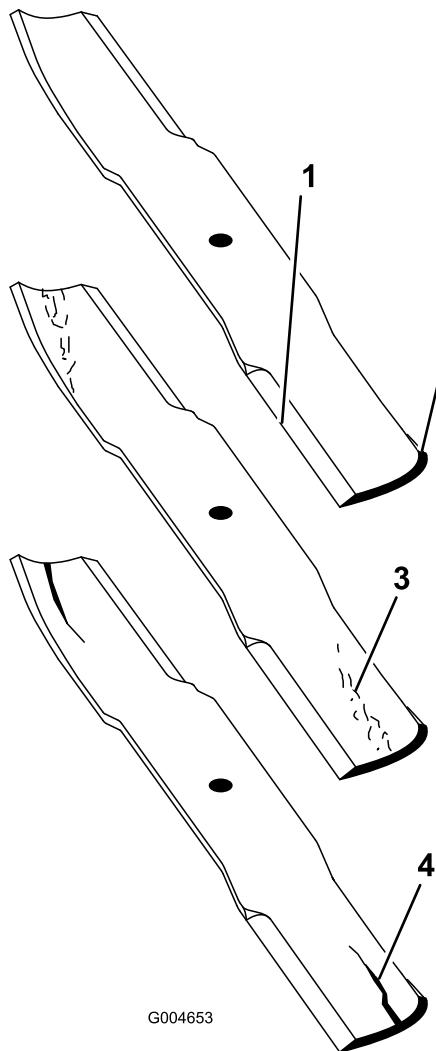

Figure 69
1. Inspect the cutting edges (Figure 69).
2. Inspect the blades, especially the curved area (Figure 69).
Note: If you notice any damage, wear, or a slot forming in this area (Figure 69), immediately install a new blade.